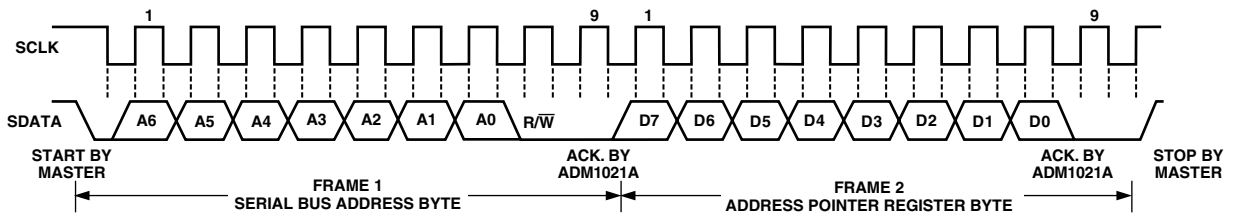

Figure 14. Writing to the Address Pointer Register Only
- If the ADM1021A's Address Pointer Register value is unknown or not the desired value, it is first necessary to set it to the correct value before data can be read from the desired data register. This is done by performing a write to the ADM1021A as before, but only the data byte containing the register read address is sent, as data is not to be written to the register. This is shown in Figure 14.
- If the Address Pointer Register is known to be already at the desired address, data can be read from the corresponding data register without first writing to the Address Pointer Register, so Figure 14 can be omitted.